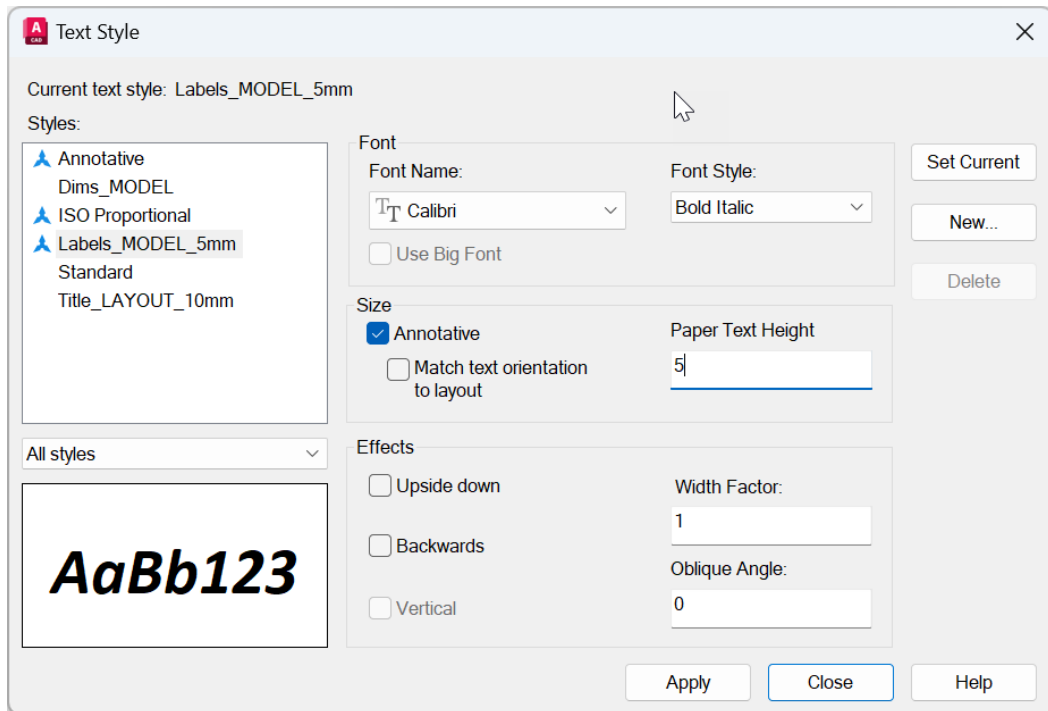

Figure 7.6: The Text Style dialog box with the Labels\_MODEL\_5mm style selected
14. Your **Text Style** dialog box will now look as shown in *Figure 7.6*.